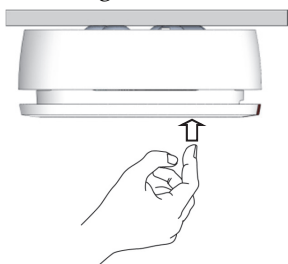

Figure 12
1. Press the cover up firmly (*see Figure 12*). If the detector is functioning correctly, a fire alarm is activated (*see Visual / Audible Indicators*) and an alert message is sent to the system receiver.